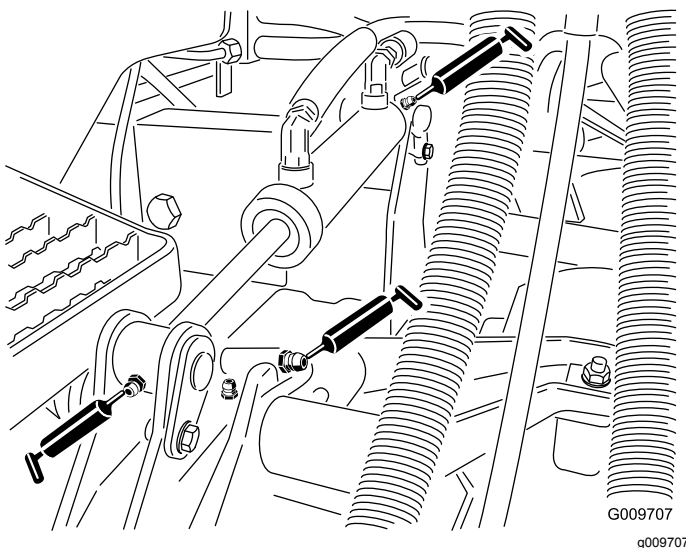

Figure 22
- Lift arm bushings (1 per deck) (Figure 22)
- Lift cylinder bushings (2 per deck) (Figure 22)